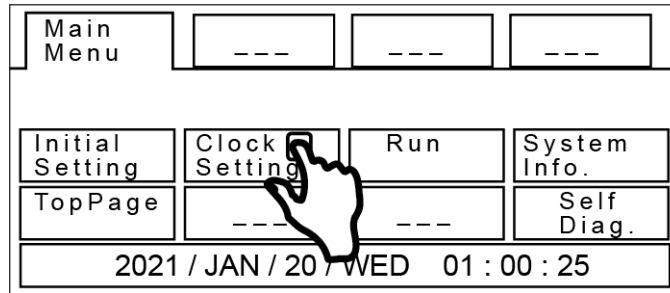

Figure 25. Main Menu Page
4. On the Main Menu page touch the Clock Setting button open the Clock Set page (see Figure 25)